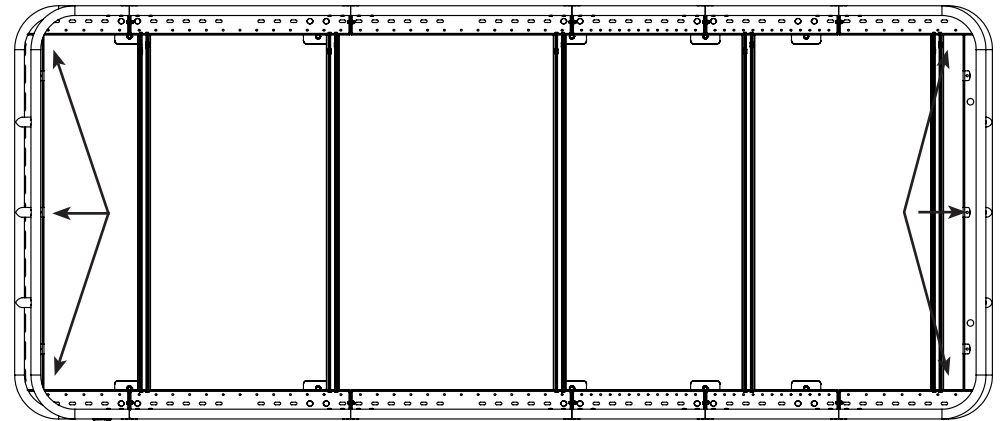

FIG 23
10.1 Attach Clip Nuts to Baskets: Install the **Clip Nuts** to the **Front and Rear Basket** locations as shown in **FIG 23**.